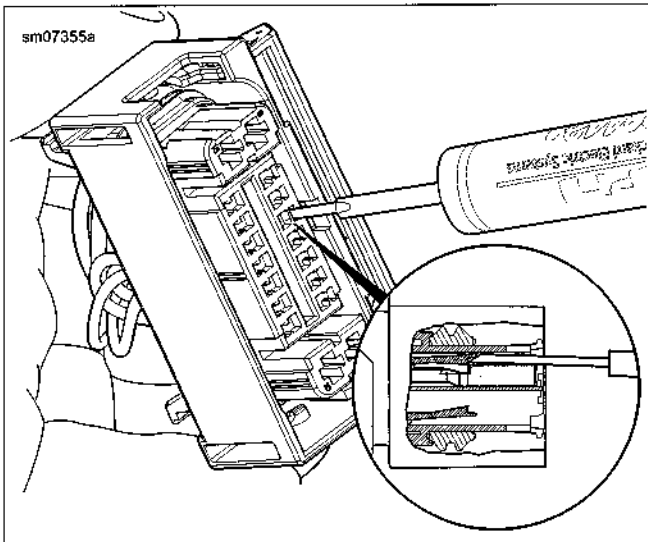

Figure A-76. Removing Small Socket Terminal: Tyco MCP Connector
3. See Figure A-76. Insert the TERMINAL EXTRACTOR (Part No. B-50085) into the cavity on the outside of the terminal.